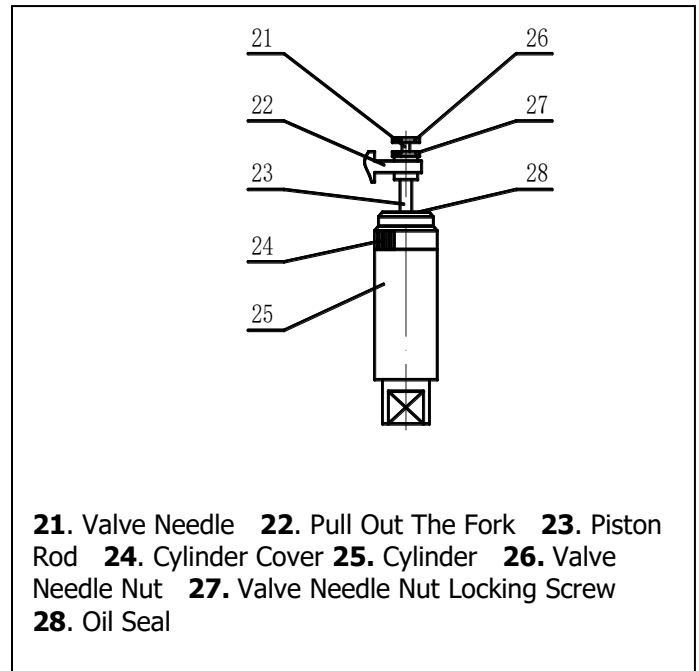

Figure 3
3. Be sure to use proper indenter and weight for material and hardness to be tested. (See Figure 3).
How to fill oil in the dashpot (Figure 3)